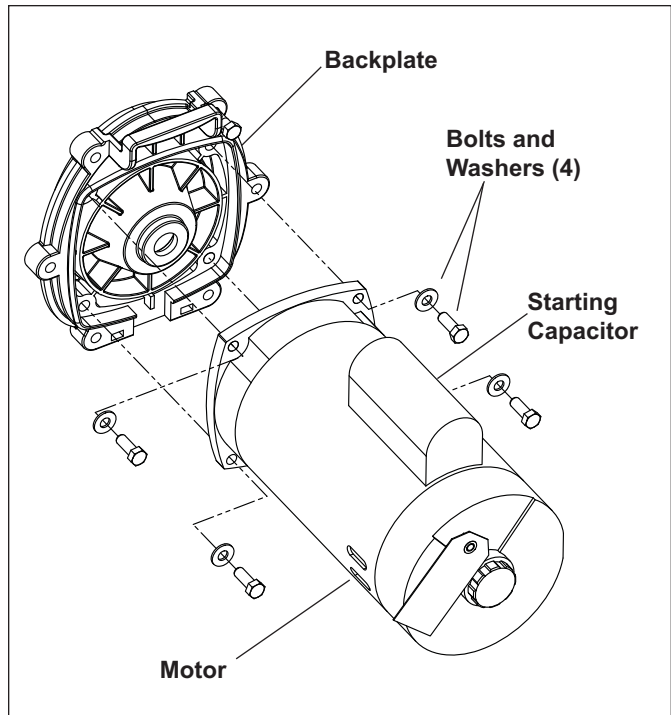

Figure 14. Backplate Assembly
2. Remove the four (4) screws on the main cover and remove the main cover.
3. Place the backplate motor assembly o-ring side down and unscrew the four (4) 9/16" screws and remove the motor.
**NOTE** Before removing the backplate, note the alignment of the backplate to the motor. See Figure 14.
5. Replace the four (4) bolts and washers holding the backplate to the motor.